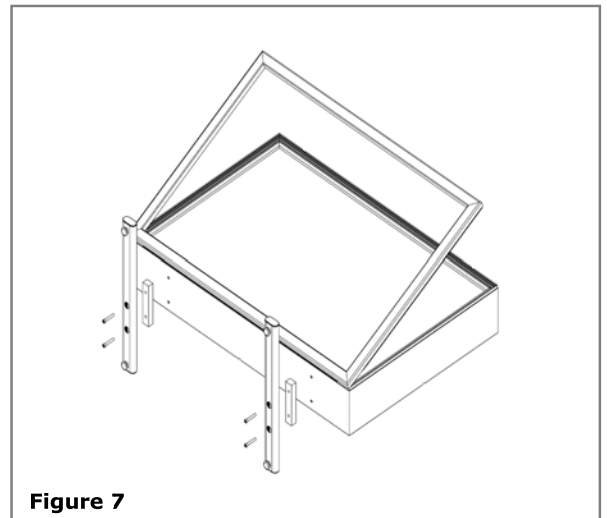

Figure 7
1. **Tabletop / Counter Option** – Optional aluminum feet must be ordered for this application. Please contact Stylmark at 1-800-328-2485 for more information about this option. **See Figure 7.**